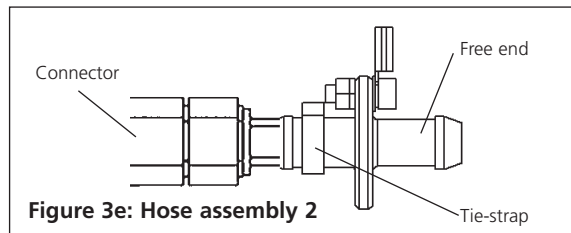

Figure 3e: Hose assembly 2
- Refer to fig. 3e. Connect the cooling water inlet of the condenser to the connector of the 8mm bore hose of hose assembly 2. Connect the free end of the earthed spigot of hose assembly 2 to the cold water feed.